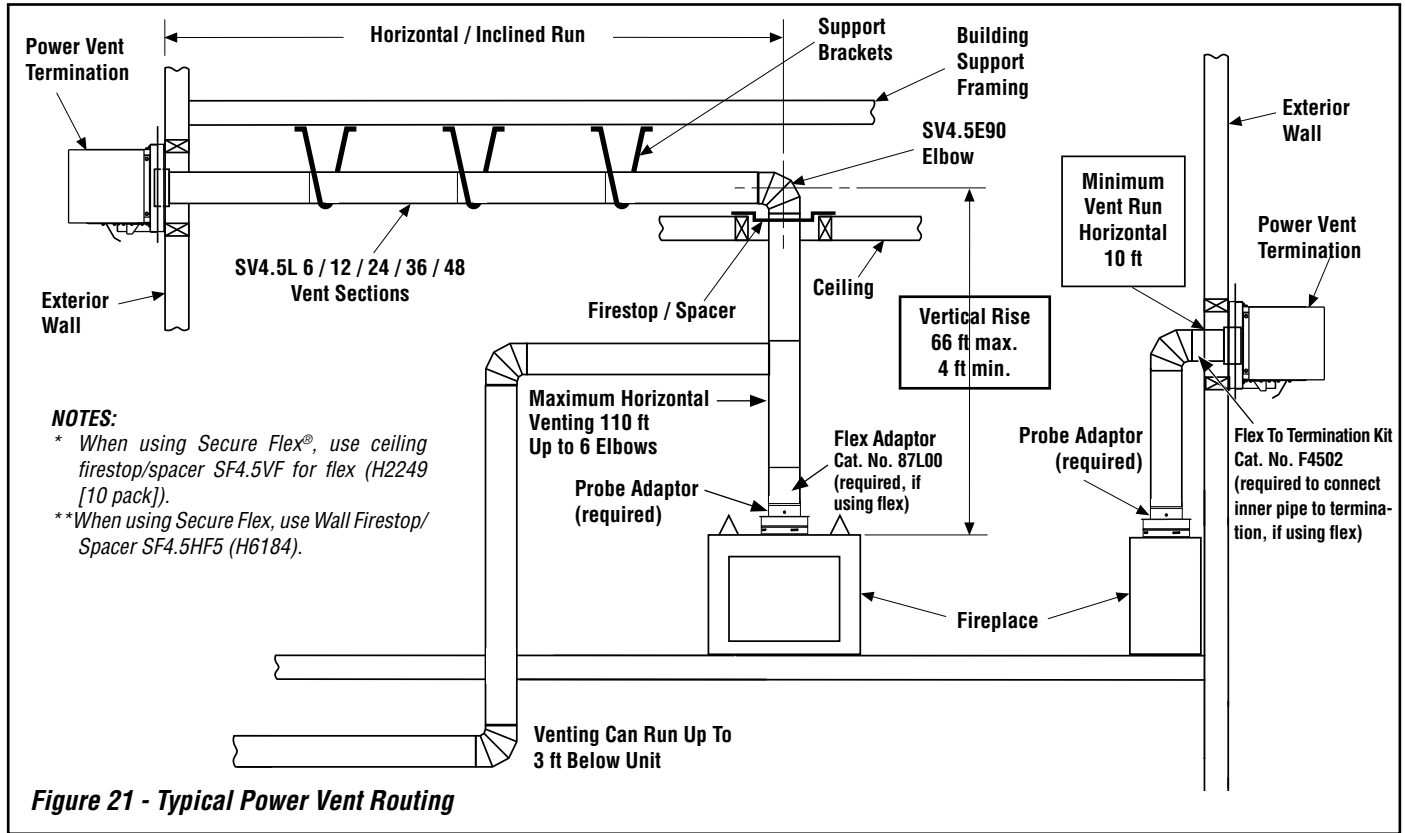
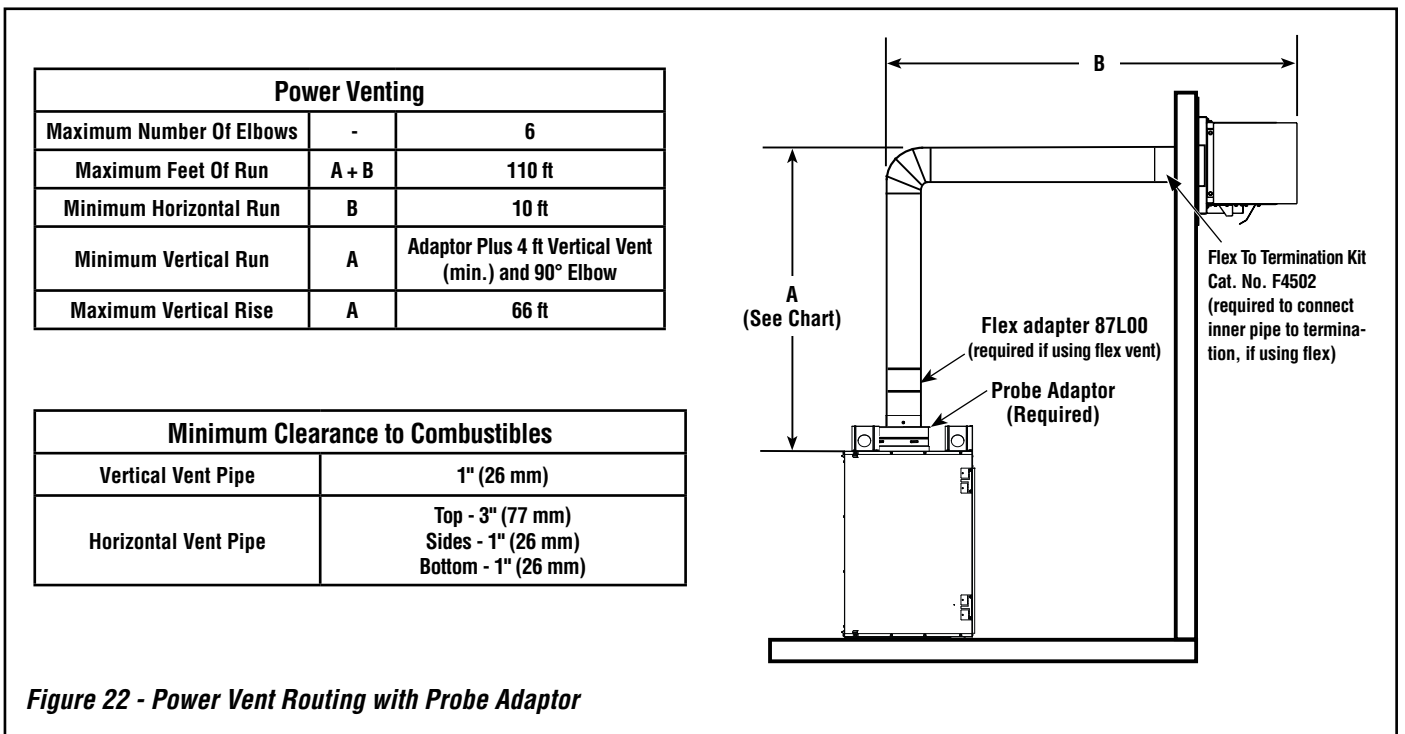

Figure 21 - Typical Power Vent Routing
Figure 22 - Power Vent Routing with Probe Adaptor
C. Attach vent components to each other. Other vent sections may be added to the previously installed section in accordance with the requirements shown in *Figures 21 and 22 on Page 19*.
G. Continue installation of horizontal/inclined sections. Continue with the installation of the straight vent sections in horizontal/inclined run as described in **Step C**. Install support straps every 3' (914 mm) along horizontal/inclined vent runs using conventional plumber's tape (see *Page 19, Figure 21*).
See **Figures 21 and 22 on Page 19** illustrating the various horizontal venting configurations that are possible for use with these appliances. The table in **Figure 22 on Page 19** shows each system's minimum and maximum vertical and horizontal length values that can be used to design and install the vent components in a variety of applications.
See **Figure 21 on Page 19**.